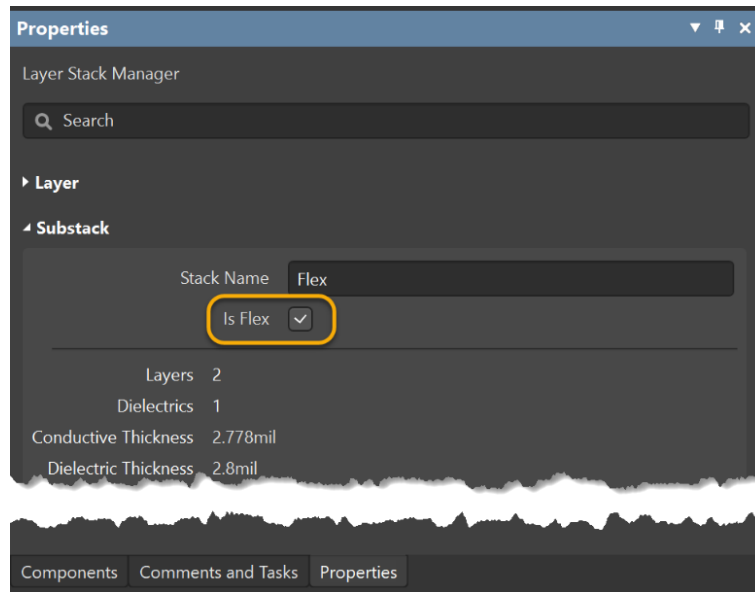

Figure 14. Properties Panel with Option Flex
35. In the *Properties* panel, activate the option **Flex** for the Sub Stack `Flex`, as seen in Figure 14.